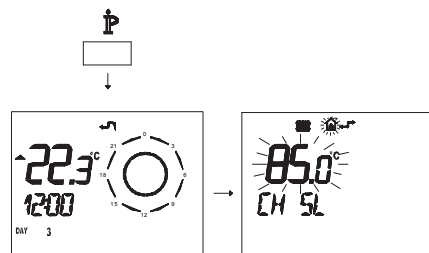

Figure 5.41
- Press button **P** for more than 3 seconds to enter **INFO** mode (Figure 5.41).